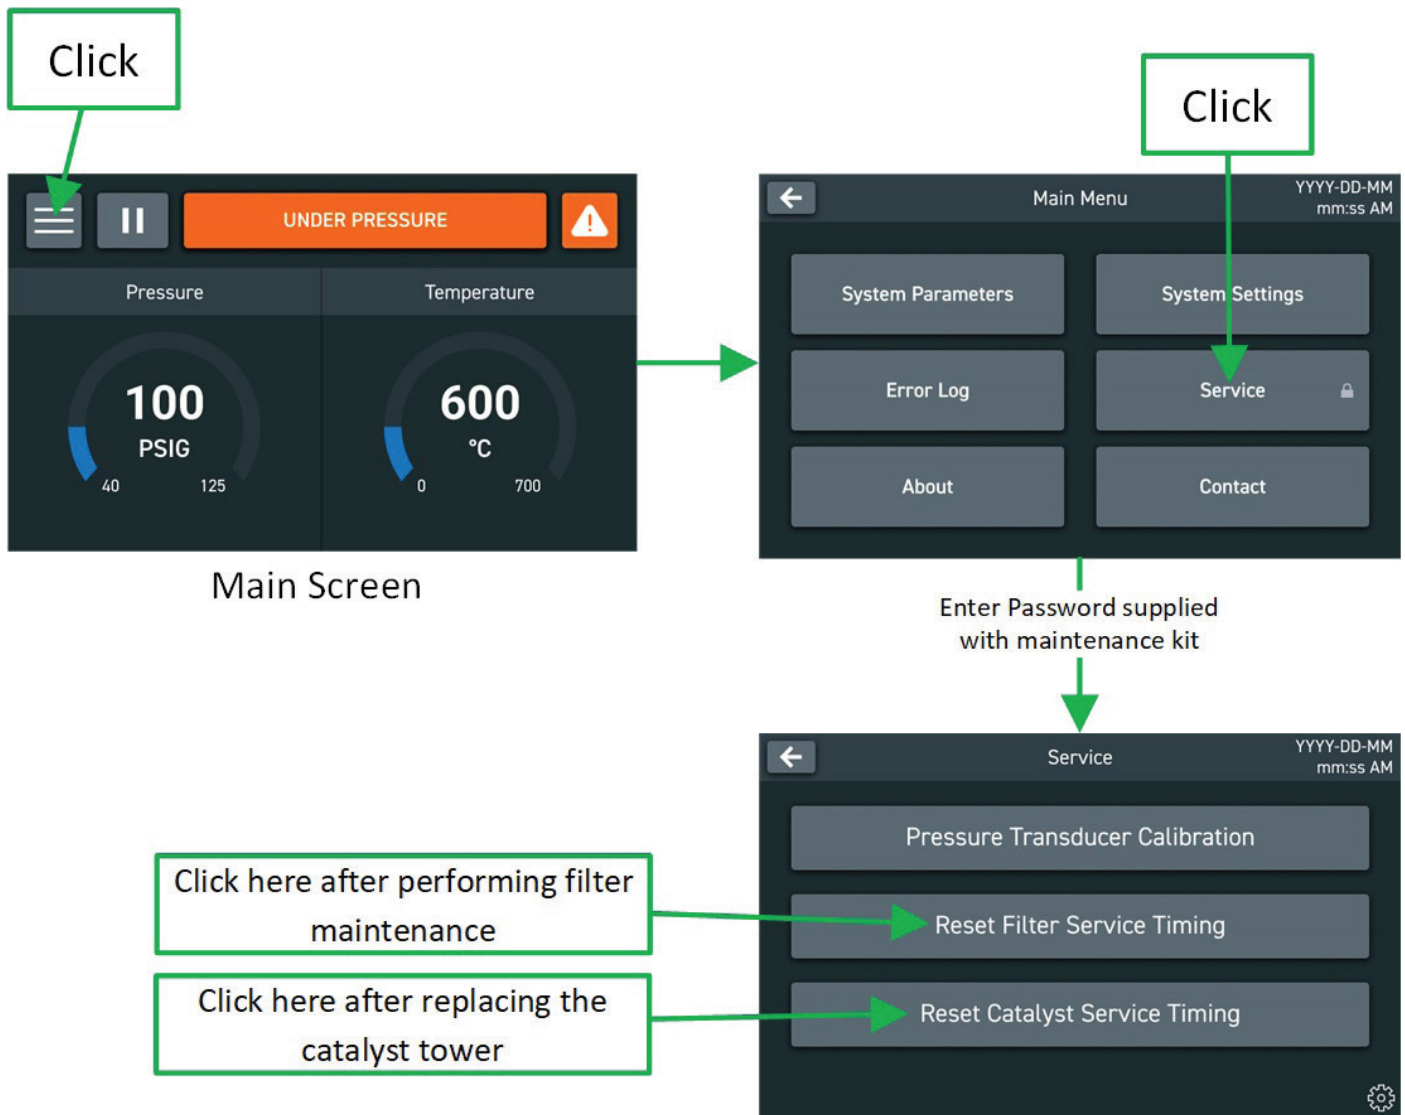

Figure 12 - Resetting Service Timers
15. Once catalyst module cartridge maintenance has been performed, the catalyst service timer should be reset. Once the system is turned back on and powered up, refer to Figure 12 to reset the service timers. Step 1: From the main screen, click on the three lines icon in the upper left-hand corner. This will display the main menu. Next, click on the "service" button on the right-hand side (with lock icon). A popup box will ask for a password. Enter the password that was included with your maintenance kit. This will bring up the service menu. Click on "Reset Catalyst Service Timing" to reset the catalyst service timer. The system will ask once or twice to confirm timer reset.
Replacement prefilter cartridges, final filter replacement cartridges, and catalyst modules may be ordered through a local representative. For convenience, a one-year supply of these replacement filter cartridges has been assembled into a maintenance kit (P/N MKZAG-1). The kit contains one first stage coalescing prefilter cartridge (P/N 6C10-025), one second stage coalescing filter cartridge (P/N 050-05-BX), and one Grade GS final membrane filter (P/N GS-050-05-95). Refer to Figure 12 for a table of replacement parts. Filter cartridges can be purchased in boxes of eight or ten by ordering the part numbers shown in the table. Depending on the model of zero air generator you have, you can order a replacement catalyst module by referring to the part number shown in Figure 6 for your model.